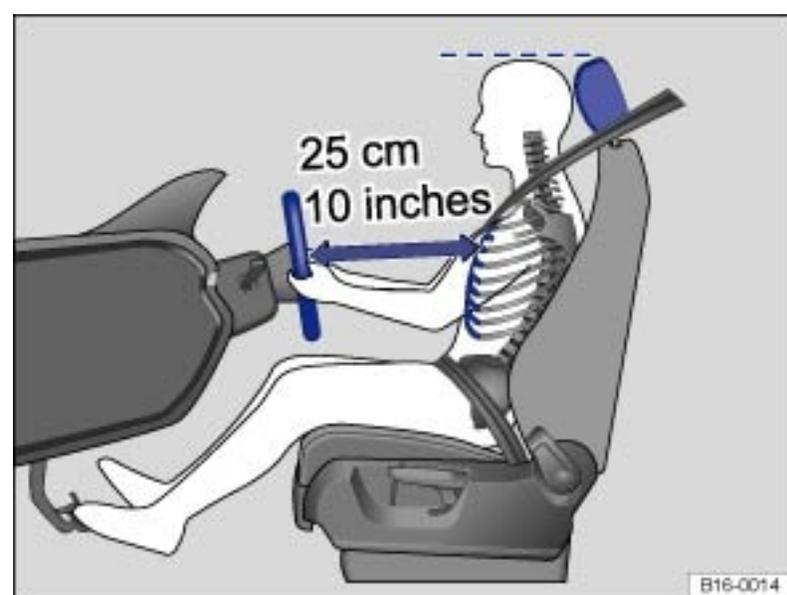
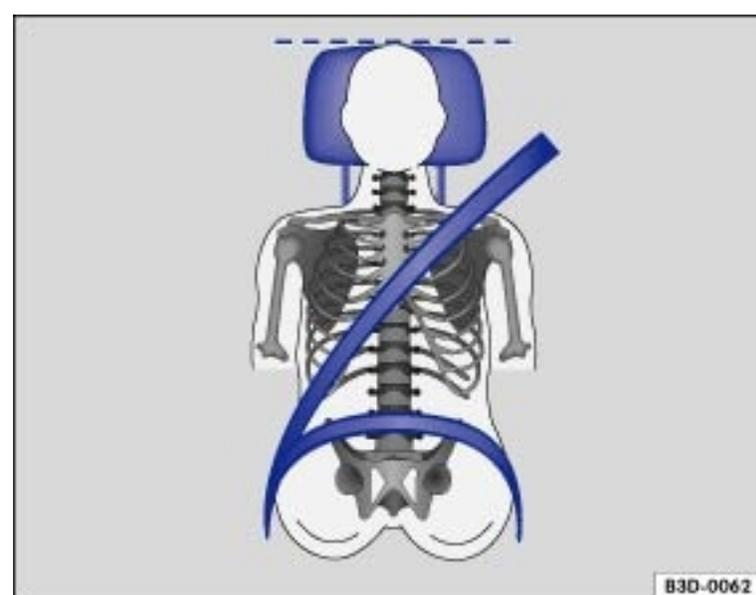

Fig. 37 The driver should never sit closer than 10 inches (25 cm) of the steering wheel.
Fig. 38 Proper safety belt positioning and head restraint adjustment.
- Adjust head restraints so that the upper edge of the head restraint is at least at eye level or higher. Position the back of your head as close as possible to the head restraint → Fig. 37 and → Fig. 38.
- ▶ Adjust the steering wheel so that there are at least 10 inches (25 cm) between the steering wheel and your breast bone → Fig. 37 . When adjusting the proper distance to the steering wheel, grasp the top of the steering wheel with your elbows slightly bent.